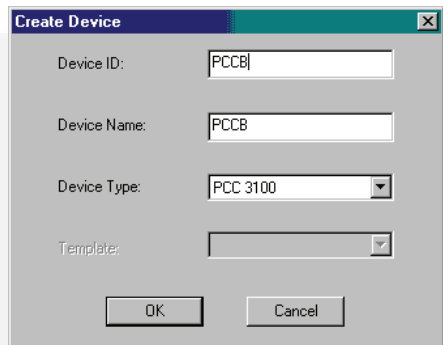

FIGURE 2-30. PCC 3100 DEVICE SETUP
4. Enter a Device ID and Device Name (Figure 2-30). Select **PCC 3100**, from the **Device Type** drop-down list. Click on the **OK** button to create the device. Click on the Device Setup **OK** button to exit the Device Setup. Click on the **Apply** button to save the device setup.